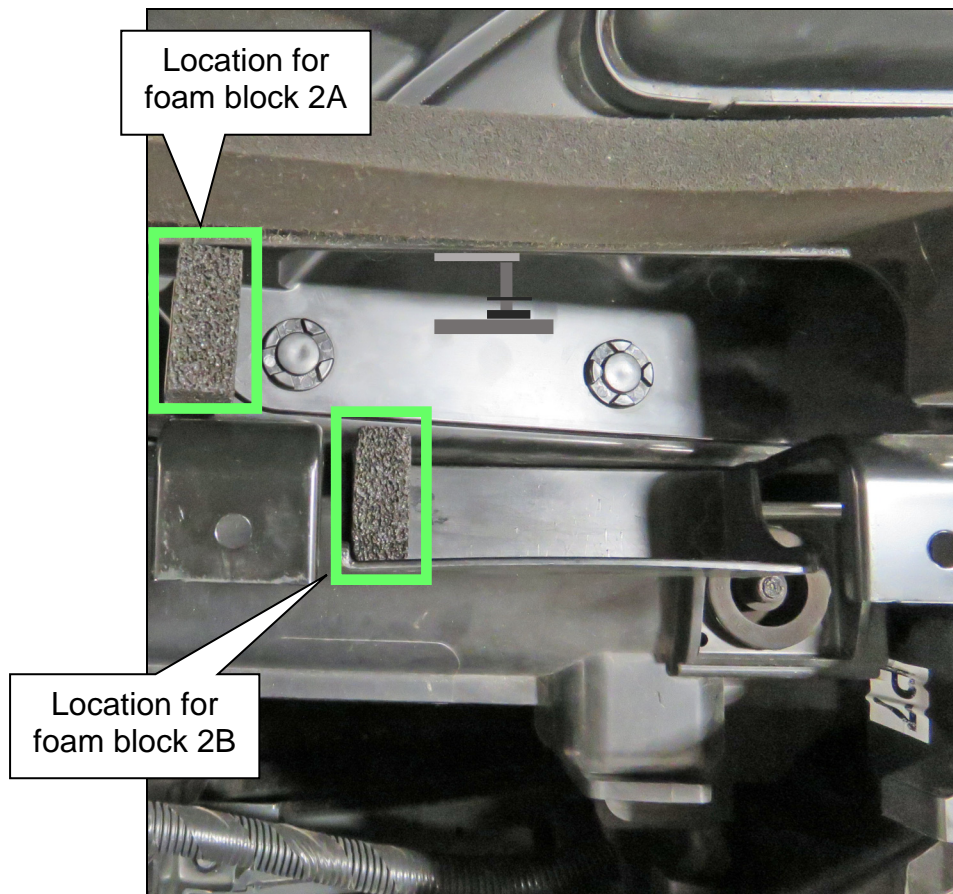

Figure 4
8. Inspect the locations outlined in **green** in Figure 4 for the presence of foam block 2A and foam block 2B.
10. Install foam block 2A and foam block 2B in the locations shown in Figure 4 on page 4.